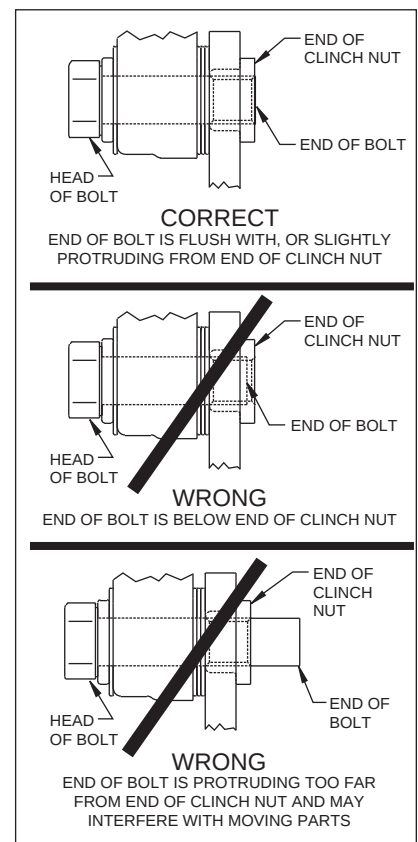

Figure 4.
- Install the dust cap (12) onto the hub (4). Friction created by the o-ring (13) on the dust cap (12) keeps it from unscrewing. The O.D. of the existing spindle washer may be larger than the I.D. of the dust cap (12) not allowing it to seat against the hub face. Some grinding on the washer O.D. may be necessary to clear the I.D. of the dust cap (12).
•**NOTE:** Please reference the caution statement at the beginning of the assembly instructions. Mount the caliper (14) onto the caliper bracket (1) using washers (15), bolts (16) and caliper spacer (17). Finger tighten. View the rotor (8) through the top opening of the caliper (14). The rotor (8) should be aligned in the center of the caliper (14). If not, adjust the caliper (14) by using 0.032 inch thick shims (18) placed between the caliper mounting bracket (1) and the caliper spacer (17). Use as many shims as necessary to obtain the correct alignment. Finger tighten. **NOTE:** The end of the bolt must be flush with or slightly protruding from the head of the clinch nut. See Figure 4. Place spare shims (18) between washer and caliper mounting ear to achieve the proper mounting fastener configuration. Always use the same amount of shims on both the top and bottom caliper mounting bolts (16). Apply red *Loctite*® 271 to bolt threads (16) and torque to 40 ft-lb. Caliper mount bolts may be safety wired for additional security.
- Install the disc brake pads (19) and secure using cotter pin (20).